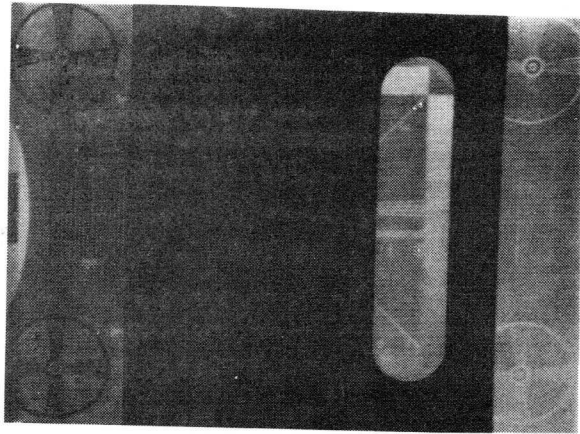
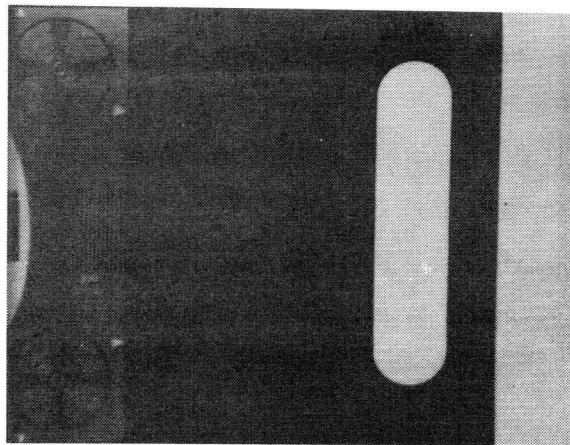

Fig. 14 Video Display when Target Voltage is below the Optimum Value. (Notice negative after image on the right)
Fig. 15 Video Display when the Target Voltage is just the Optimum Value. (Notice that the negative after image is not seen on the right)
15. Remove the test pattern in a horizontal direction or take a uniform white background by moving the camera itself. If a negative after image is observed under the white or bright backgrounds as shown in Fig. 14, raise the target voltage slowly up to a value where negative after image fades off into
smooth white or bright backgrounds, as shown in Fig. 15. This voltage without negative after-image is the optimum voltage of the Chalnicon. If no negative after-image is observed at the pre-set target voltage, it may be that the target voltage exceeds the optimum voltage. If so, decrease the target voltage until the negative after image appears, as shown in Fig. 14. Then, increase the target voltage to just enough voltage, the optimum voltage, to erase the negative after-image.